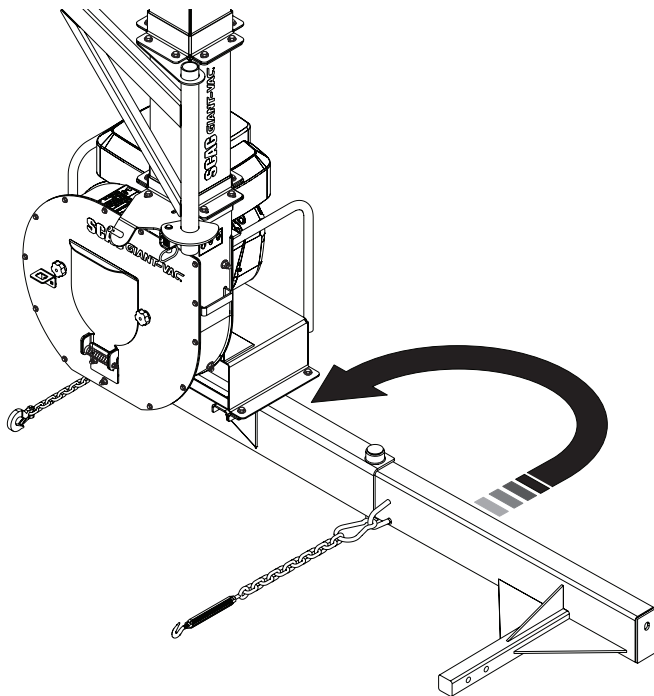

Figure 4-4. TLH "Swing-Away" Hitch Mount Open Position
3. Rotate the truck loader outboard 180 degrees and lock the "Swing-Away" Hitch Mount in open position. See Figure 4-4.